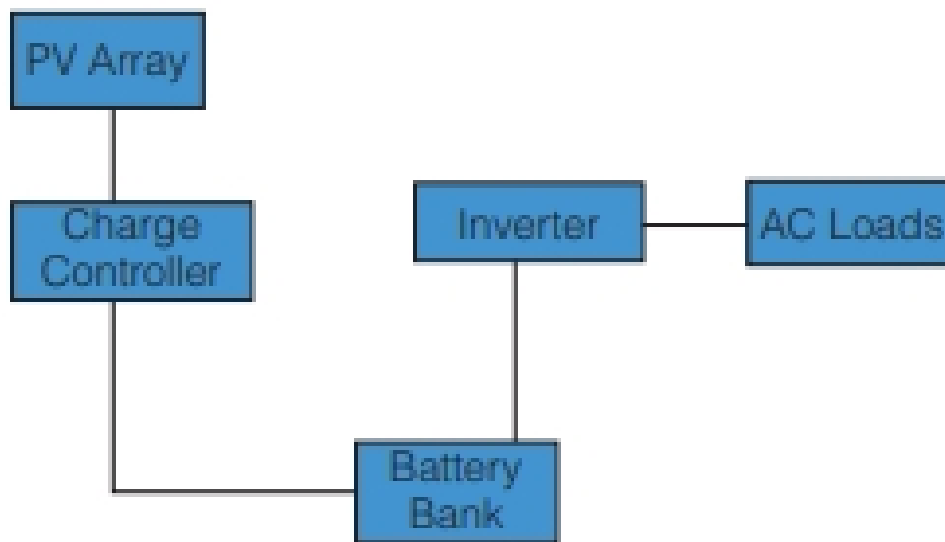

Figure 20: common inverter configuration
- In some systems, a small inverter is bought to power a single appliance. For example, small systems often have a 150W inverter attached to their system to power a color TV. Usually, the appliance is plugged directly into the inverter. See Figure 20.